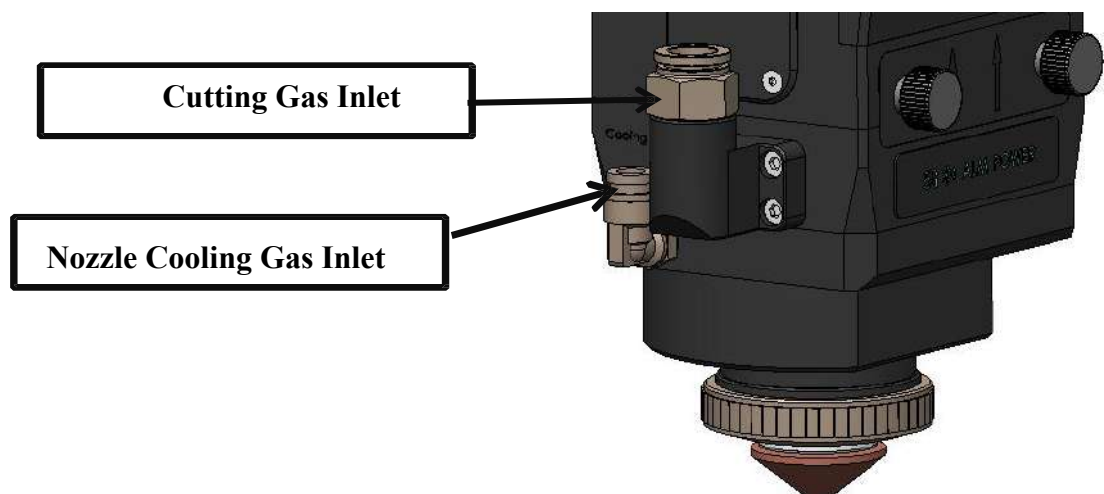

Figure 1.1
8. Cutting gas inlet: $\phi 10$ mm gas pipe connector for inputting cutting gas, as shown in Figure 1.1.
9. Cooling gas inlet: $\phi 6$ mm gas connector for cooling the nozzles and ceramic ring during cutting, as shown in Figure 1.1.